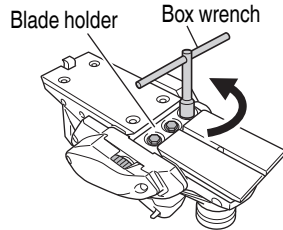

Fig. 26
- (1) As shown in Fig. 26 use the accessory box wrench to withdraw the three bolts used to retain the cutter blade, and remove the cutter blade holder.